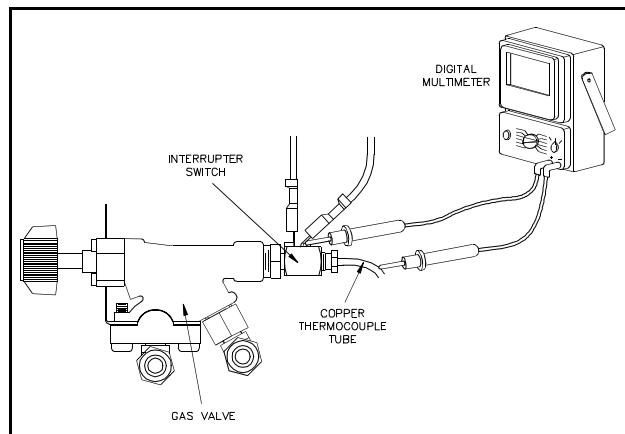

Figure 14 - Measuring Thermocouple milli-volts
Make sure that the Energy Selector is set at GAS and the Gas Control is set at HIGH COOL. With a digital multimeter set to read milli-volts, connect probe lead (A) to one of the Interrupter terminals as illustrated in Figure 14 (do not remove the orange wires from the Interrupter terminals although you may need to raise them slightly to allow the probe to touch the terminal). Connect the other probe lead (B) to the copper thermocouple tubing. Ignite and maintain a flame at the burner by continually holding in the Gas Control knob. Observe the milli-volt reading. Then move probe A to the other terminal and observe the milli-volt reading. The problem can be isolated as follows: